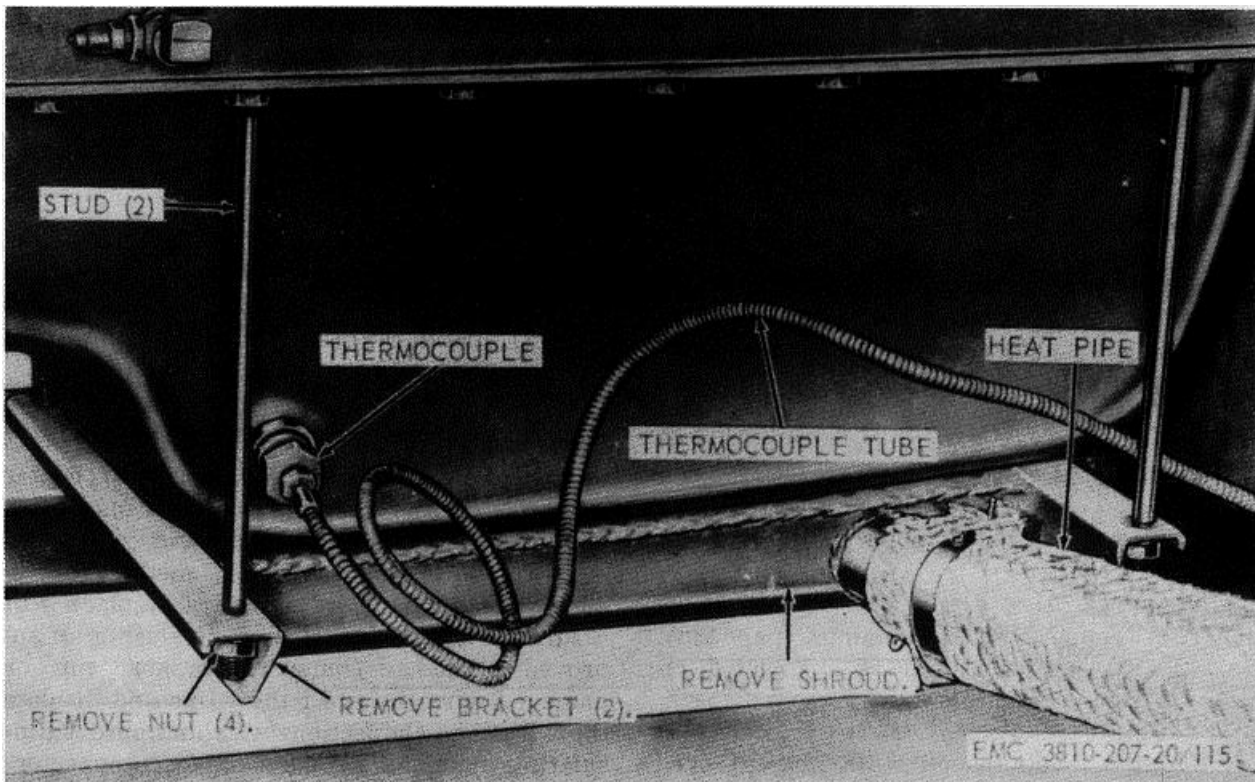

Figure 115. Oil pan shroud, removal and installation.
- (1) Remove the thermocouple (par. 189).
- (2) Remove the oil pan shroud as instructed on figure 115.
- (1) Install the oil pan shroud as illustrated on figure 115.
- (2) Install the thermocouple (par. 189).